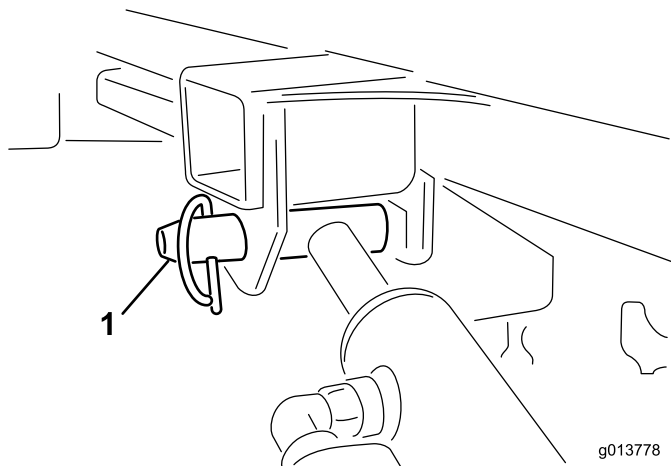

Figure 3
11. With one hand, hold the lift cylinder. With the other hand, remove the lift cylinder's locking pin (Figure 3).